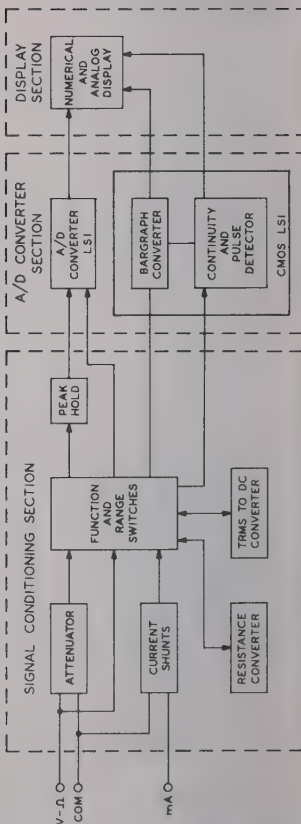

Figure 5-1. Basic System Diagram
5.1.1 The basic system block diagram for the Instrument is shown in Figure 5-1.